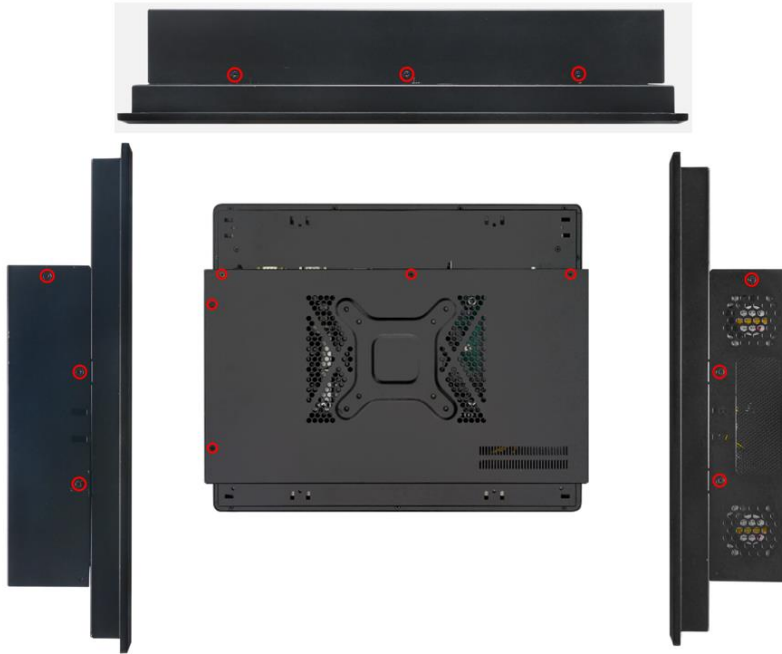

Figure 3-1: PPC2-Cxxx-ADL Series Back Cover Retention Screws
Step 1: Remove the back cover see **Figure 3-1**.